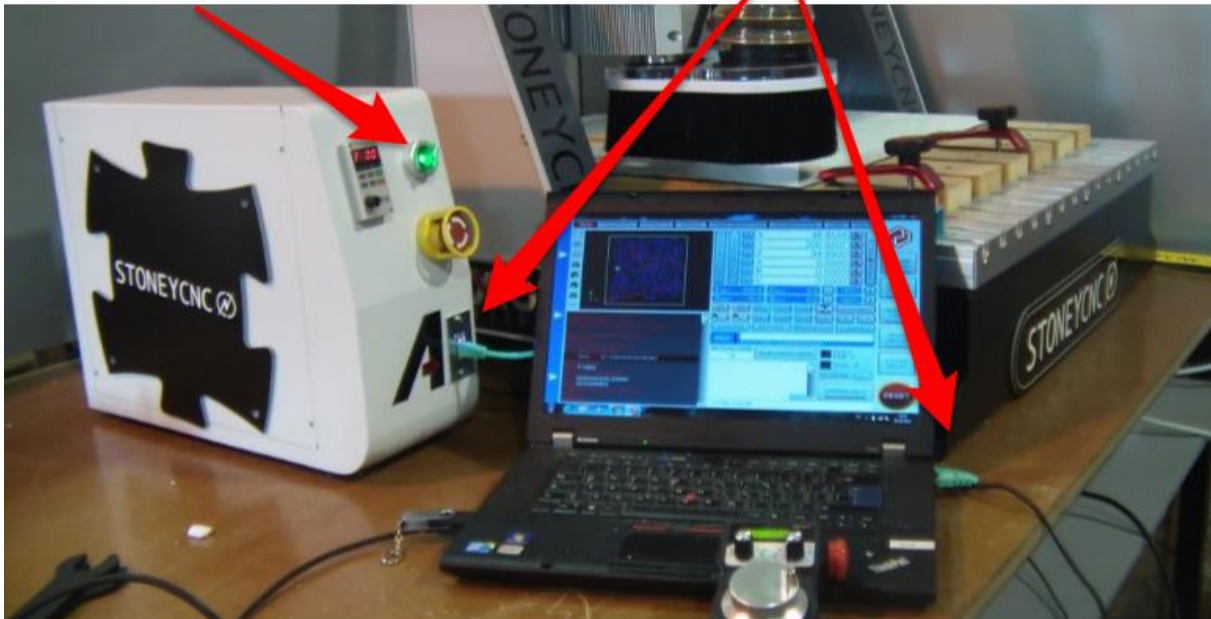

Figure 22: Turn on mains green power switch and plug in Ethernet connector into PC and controller
- Figure 22 shows the green switch in the ON position